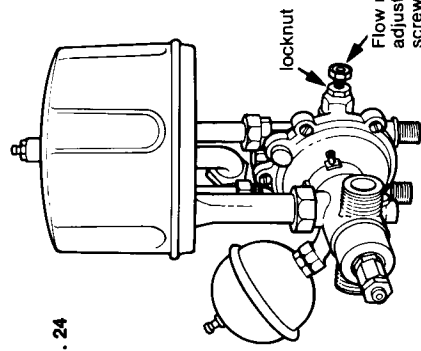

Fig. 24
- 6.11.6** To adjust the flow rate ref to fig 24 and locate the adjustment screw.